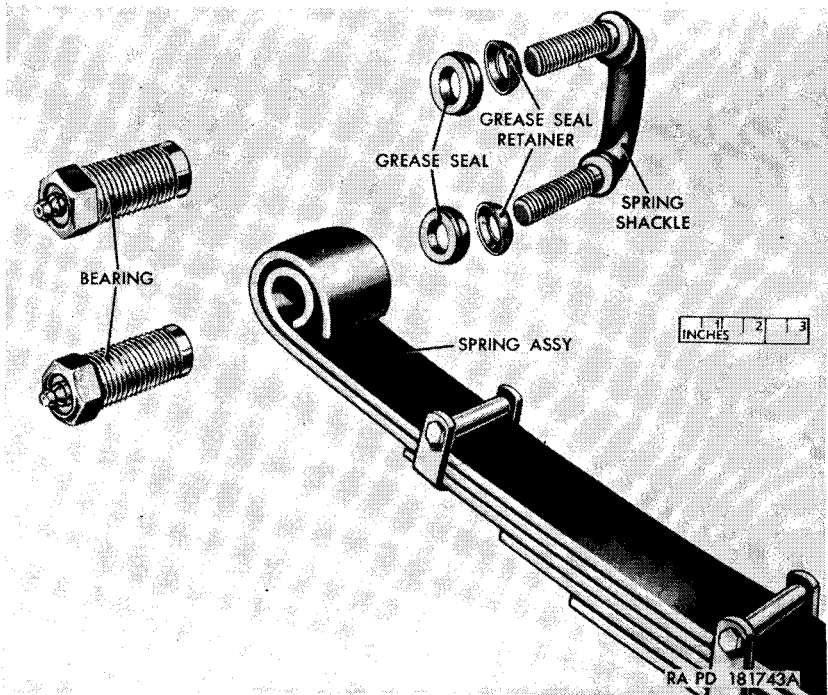

Figure 121. Spring shackle and spring.
- (3) Pull the spring shackle out of the spring eye and spring shackle bracket.
- (4) Pull the grease seals and grease seal retainers (fig. 121) off the shackle.
- (1) Position the two grease seal retainers (fig. 121) on the two threaded ends of the shackle, with the cupped side of the retainers toward the ends of the shackle.
- (2) Position the two grease seals (fig. 121) on the two threaded ends of the shackle and seat them in grease seal retainers.
- (3) Insert one threaded end of the shackle through the mounting bracket and the other threaded end through the spring eye.
- (4) Hold the shackle tightly against the spring shackle bracket and screw the bearing part way onto the shackle.
- (5) Hold shackle tightly against spring eye and screw bearing part way onto the shackle.
- (6) Tighten the bearings alternately and evenly. Back off the lower bearing about one thirty-second inch.
- (7) Lubricate spring shackles (par. 66).
- (8) Remove the safety stands or blocking and lower vehicle to ground.
- (9) Road-test vehicle and check for tight spring shackles. If shackle is too tight, remove and again install spring shackle bearings.